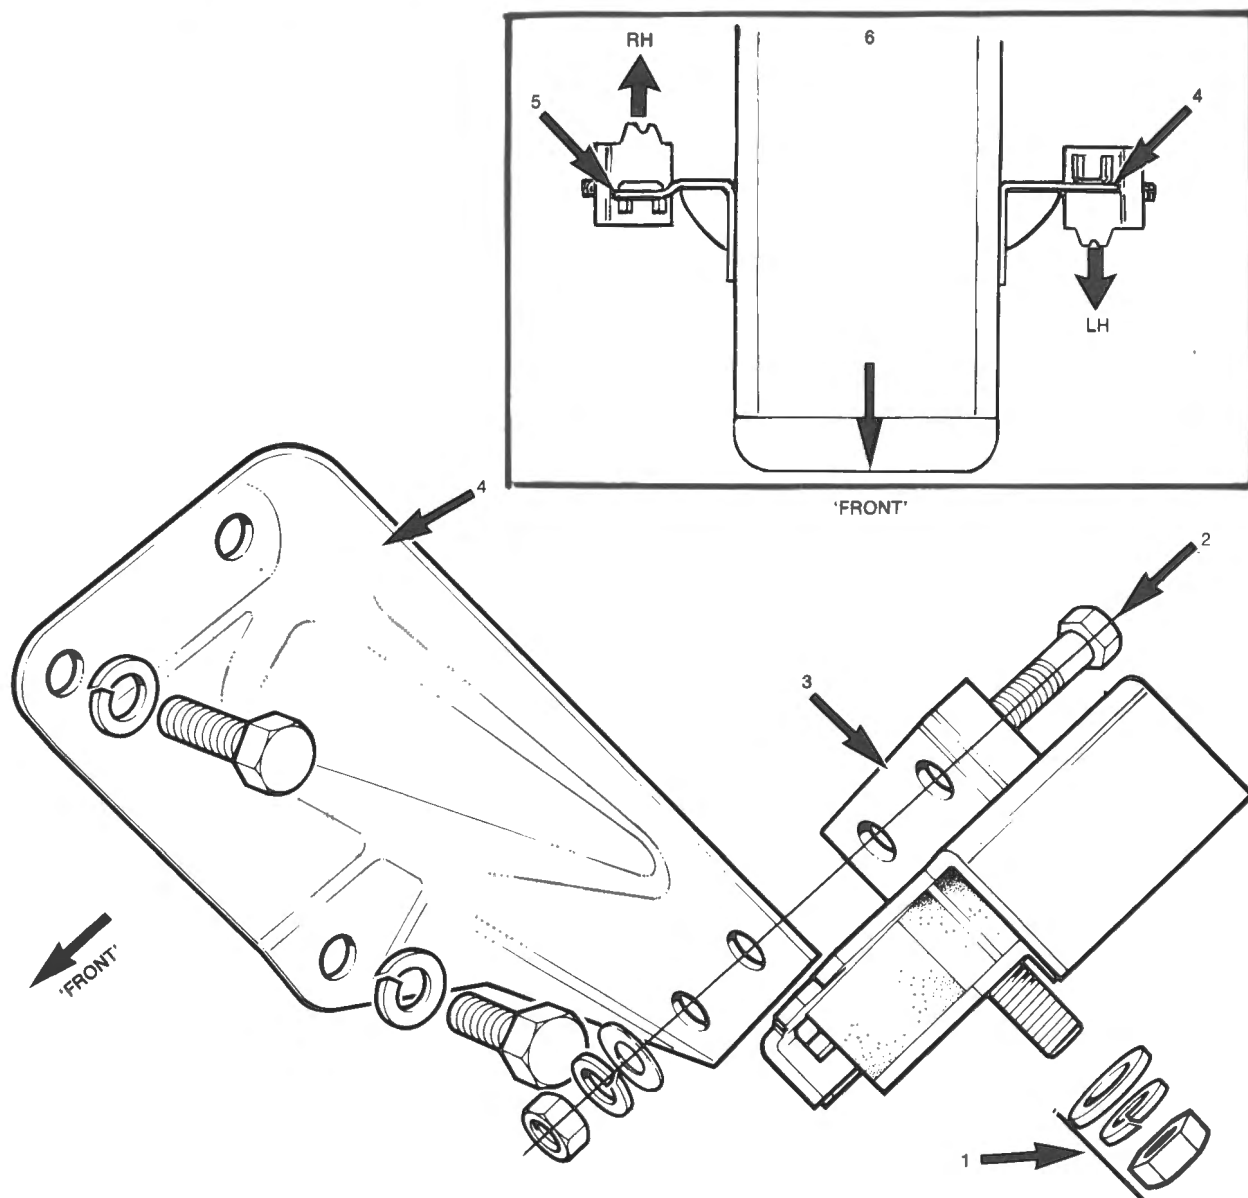

Fig. E-35
- 4 Refer Fig. E-35. Remove nut spring washers and flat washer (1), securing the mounting to the front cross member.
Hand side and inside the channel on the Right Hand side. Fig. E-35.